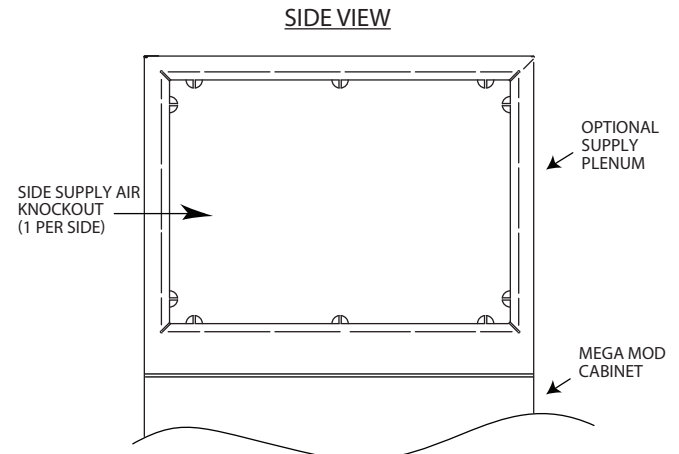

Fig. 31 — 42SM Unit Knockout Locations Side View (Typical)
1. If the unit has been ordered with a supply air plenum, then each side of the unit has one supply air knockout as well as a supply air knockout on the top of the unit (see Fig. 31 and 32).